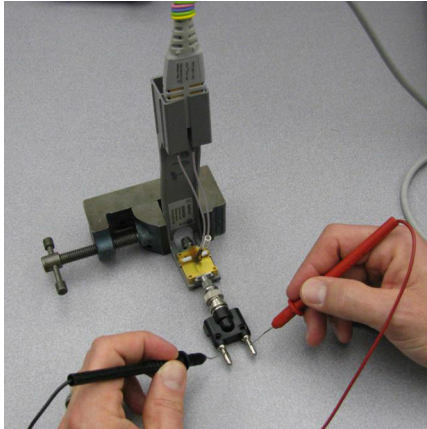

Figure 70 Measuring the differential input resistance of a ZIF or solder-in probe head
- 1 Connect the BNC to SMA adapter and BNC to Banana Plug adapters as shown in Figure 70.
- 4 Connect the ZIF or solder-in probe head to the probe amp and insert it into the PV fixture as shown Figure 70.
- 6 As shown in Figure 70, measure the DC input resistance between the banana plugs. Since one tip wire is connected to the signal line and the other tip is connected to the PV fixture ground, this is a measurement of the differential input resistance. It should be 100 kOhms +/- 2% (98 to 102 kOhms).